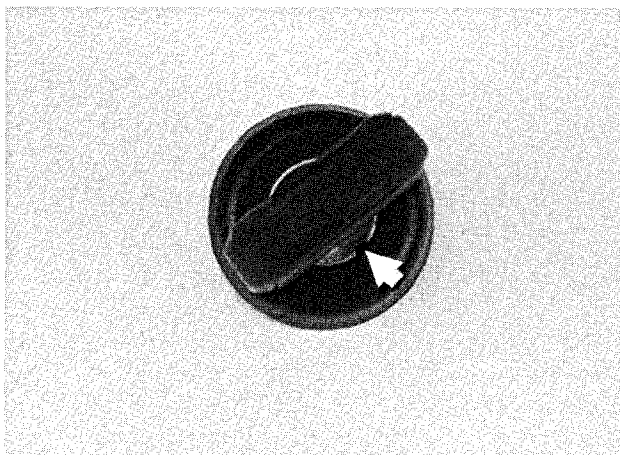

Fig. 7. Turn ignition switch 60° to "radio" position (arrow).
1. Insert master key into lock cylinder and turn 60° to "radio" position. See Fig. 7.